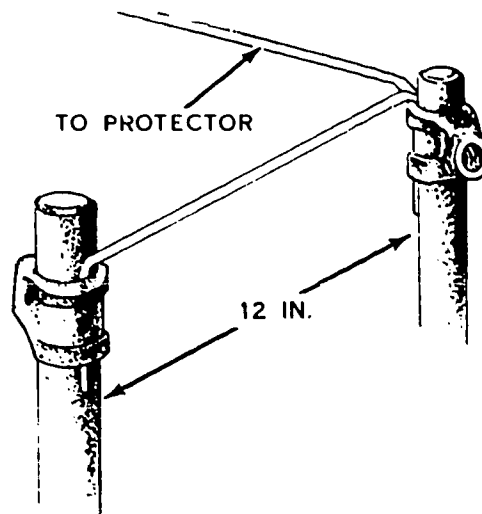

Figure 3-37. Probable connection for two installed ground rods.
- d. A ground rod. In dry and sandy soil and in extremely cold regions, one rod will not provide an adequate ground. In such cases, it may be necessary to use several rods strapped together. When you use several rods, allow at least 12 inches of space between them. Figure 3-37 shows two ground rods strapped together.